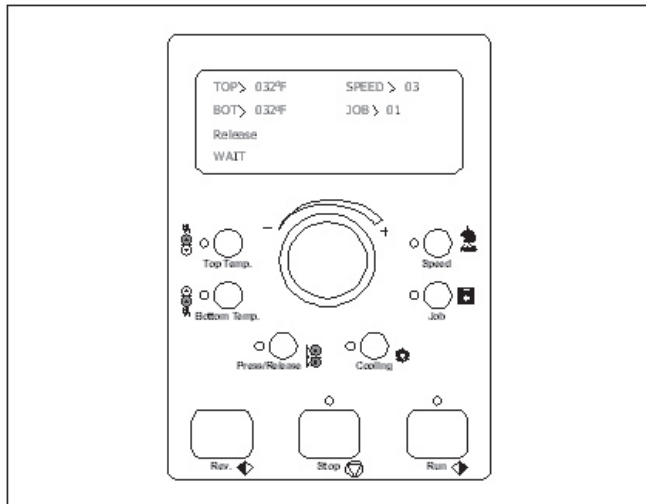

Fig 7
ROLLER POSITION INDICATOR: Displays the current main roller position. In figure 7, the roller is shown in the “Release” position. Refer to Roller Handle for more information.
C. CONTROL PANEL: (Figure 7)